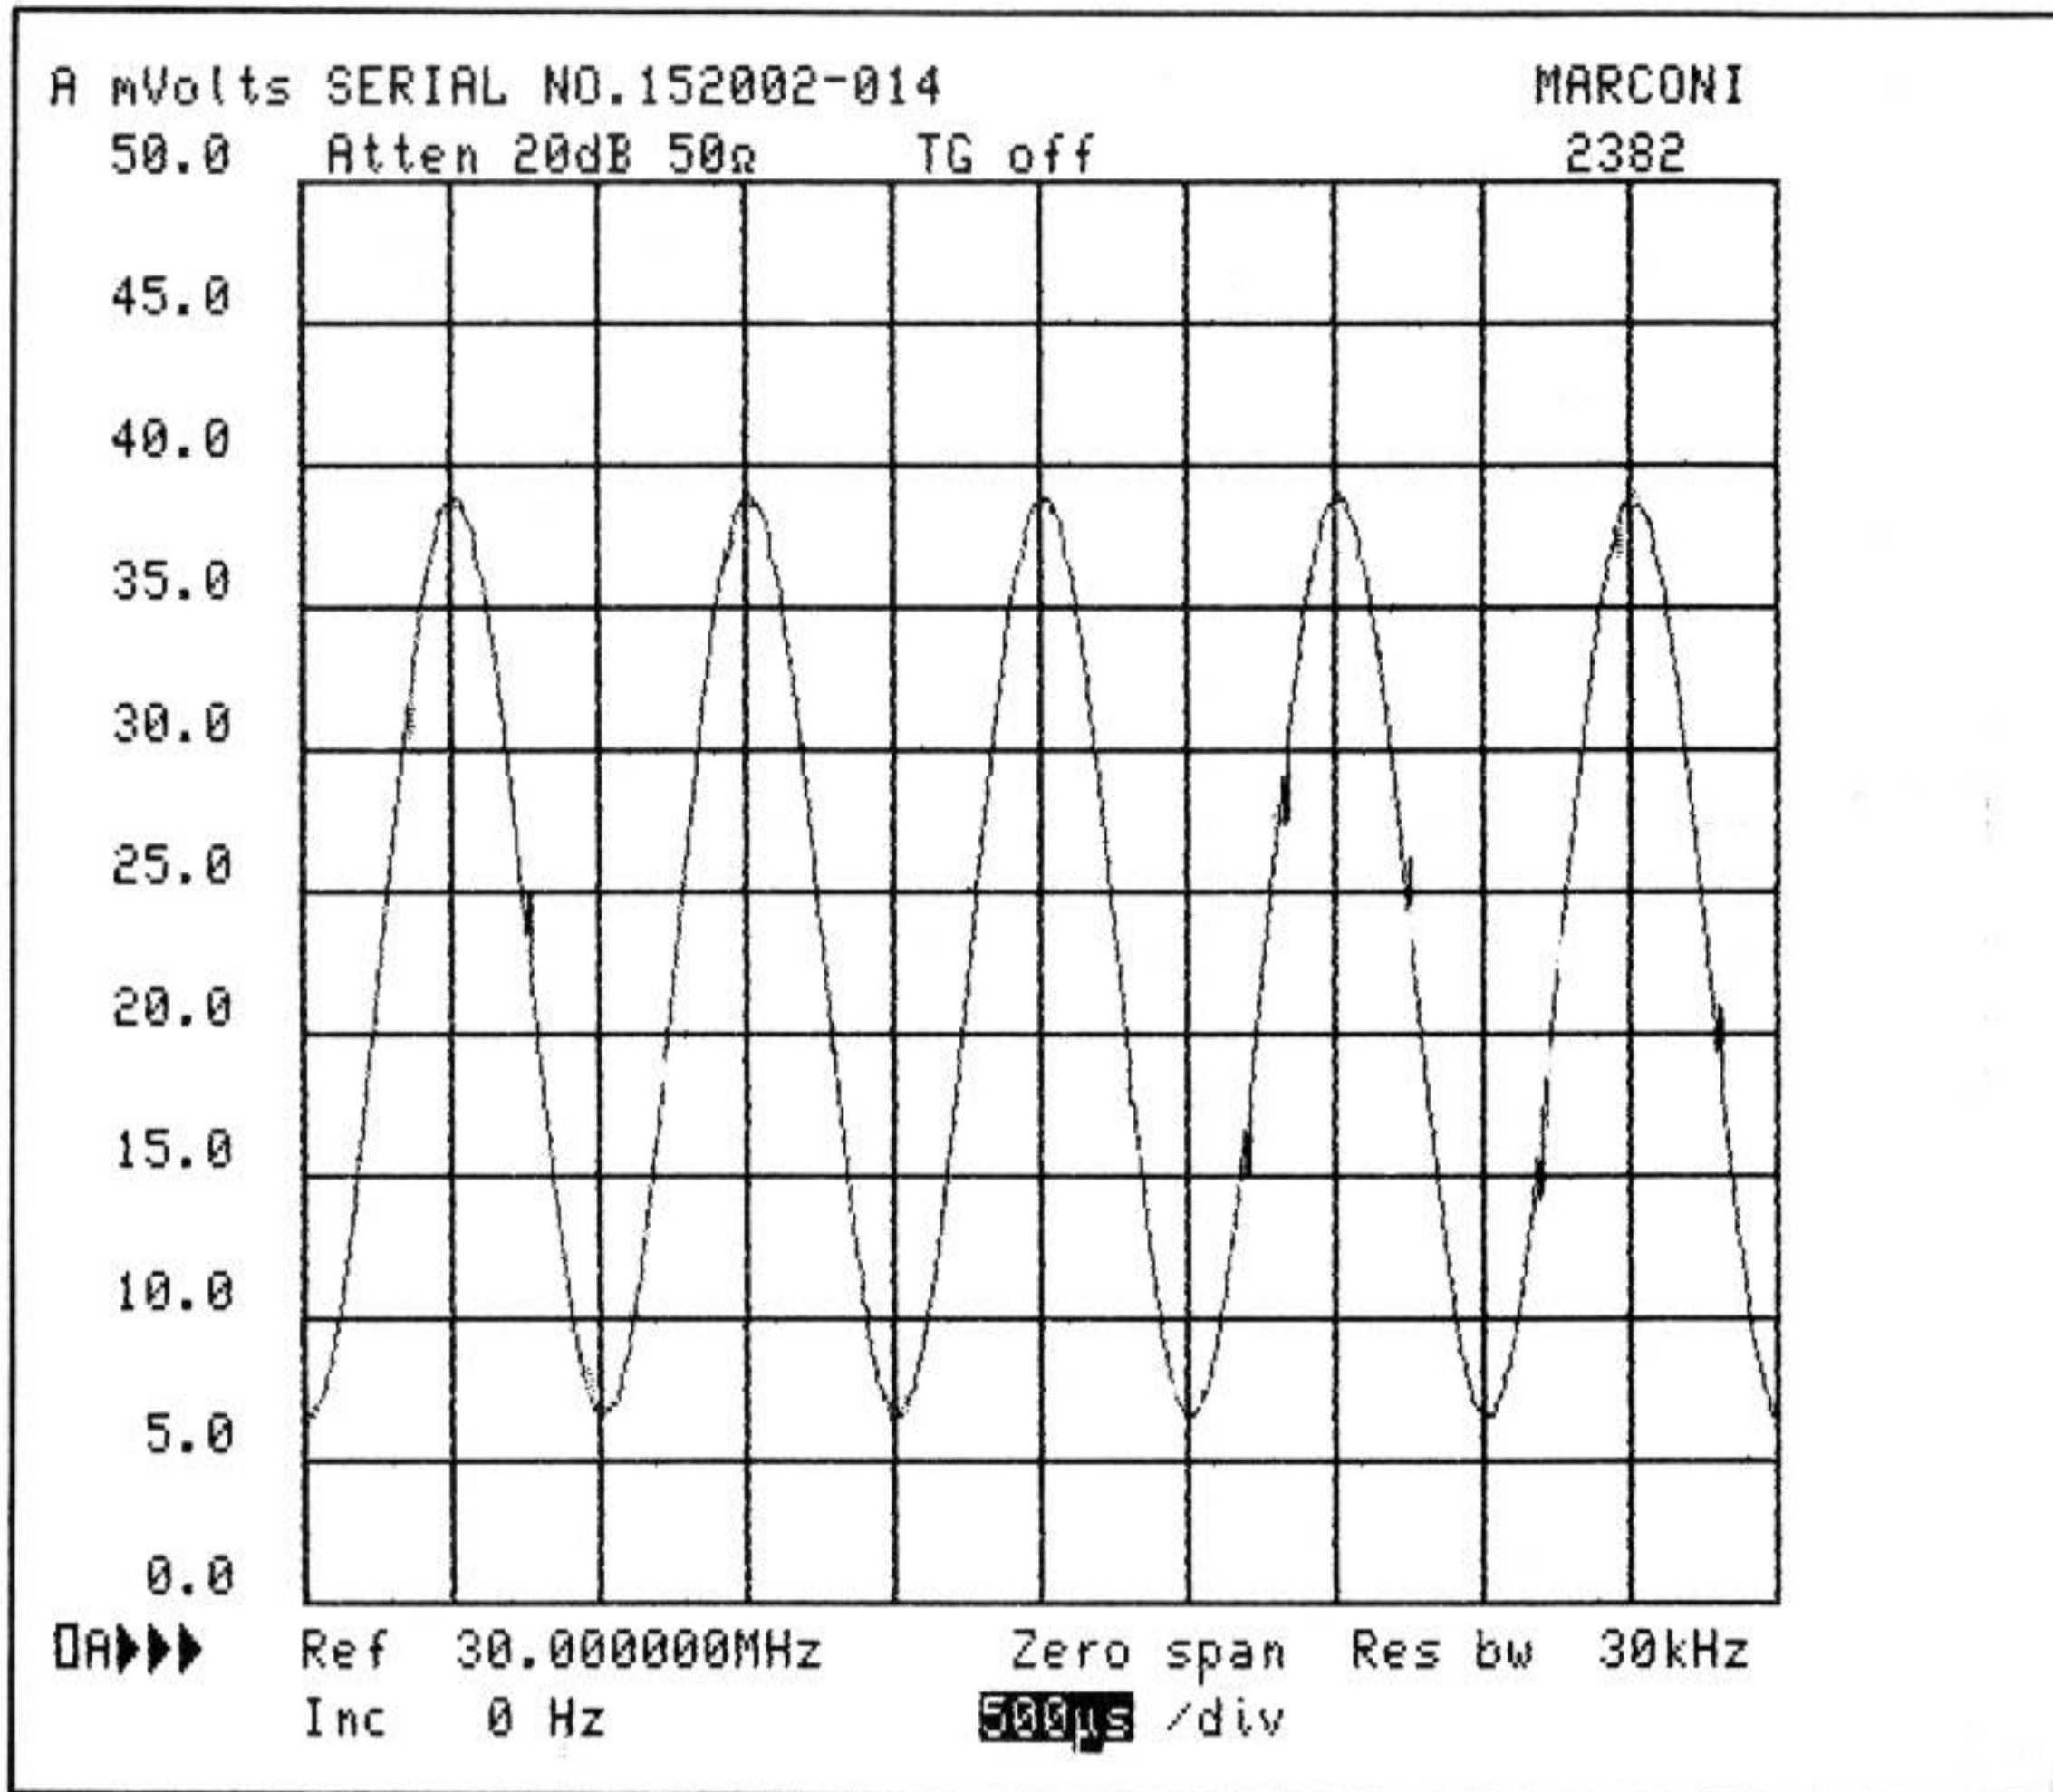

Fig. 14 An amplitude demodulated signal (ZERO SPAN)
68. With the signal generator connected and set up as in para. 63 and the 30 MHz carrier and sidebands suitably displayed on the screen press ZERO SPAN. Set the vertical scale to VOLTS/DIV. and operate the $\uparrow\uparrow$ REF LEVEL keys for a suitable range. The SWEEP TIME and FILTER BANDWIDTH \uparrow and \uparrow keys can now be pressed to obtain a satisfactory display (refer to Fig. 14).